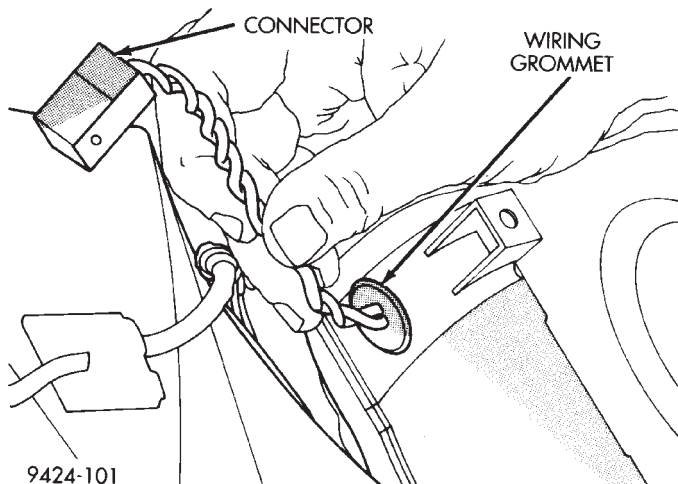

**Fig. 92 Blower Wiring Grommet**
(19) Seat blower motor wiring grommet at blower motor cover (Fig. 92).